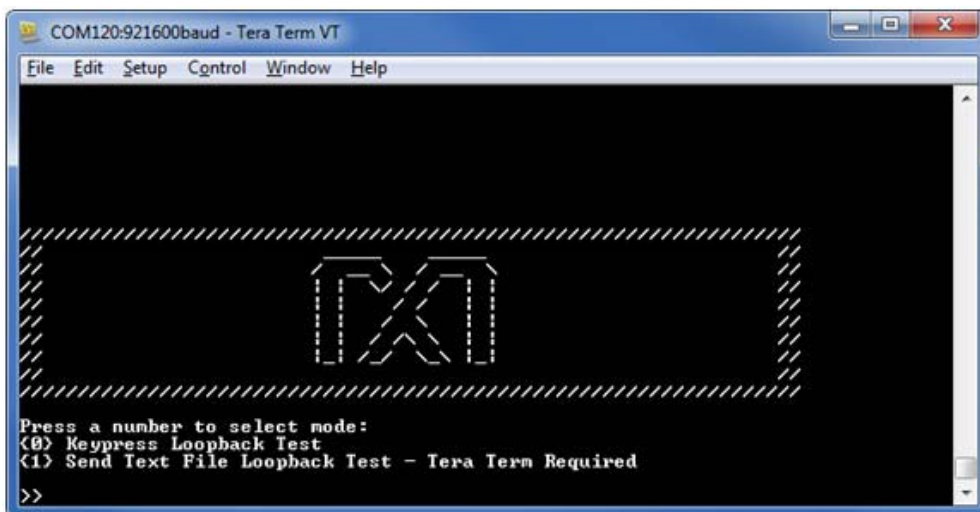

Figure 3. Terminal program main menu.
6. Open the hyperterminal or a similar terminal program on the PC. Find the appropriate COM port, usually a higher number port, such as COM4 or COM6, and configure the connection for 921600, n, 8, 1, none (flow control). The MAXREFDES62# software displays a menu (Figure 3).